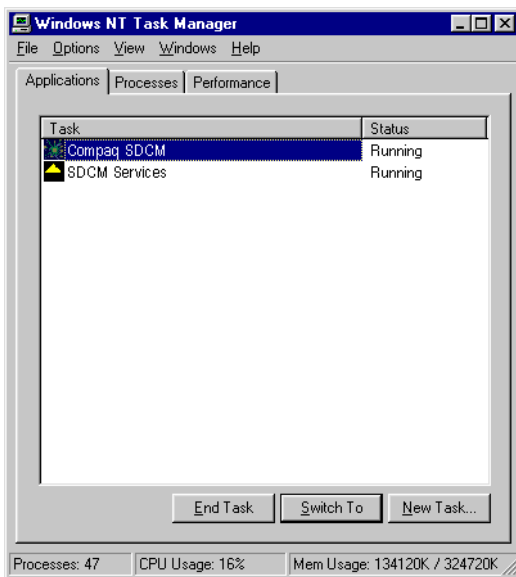

Figure 2-9: Task Manager Dialog Box, Applications Tab
2. At the Windows NT Security dialog box, click the Task Manager button. The Windows NT Task Manager dialog box (Figure 2-9) displays with the Applications page open.